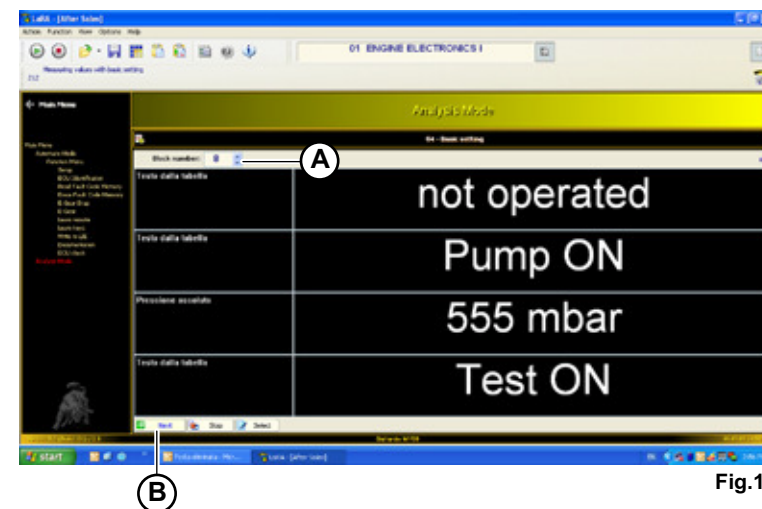

Fig.16
- Select routine 8 inside the block number (**A-Fig.16**).
- Start the connection () and press the start push-button (**B-Fig.16**).